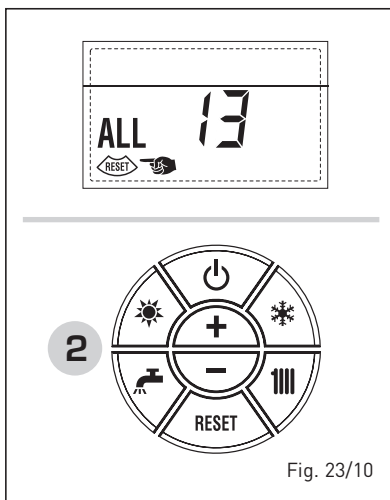

Fig. 23/10
– ANOMALÍA SONDA HUMOS “ALL 14” (fig. 23/11)